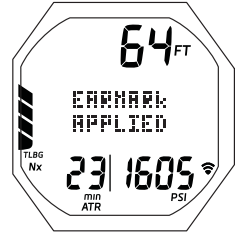

Fig. 76B - DEEP STOP MAIN (shown for 3 seconds)
- M (< 2 sec) - to apply a snapshot Earmark to the PCI data recorded at that time. *The graphics EARMARK APPLIED will be displayed in place of Stop Depth/Time for 3 seconds (Fig. 76B).*